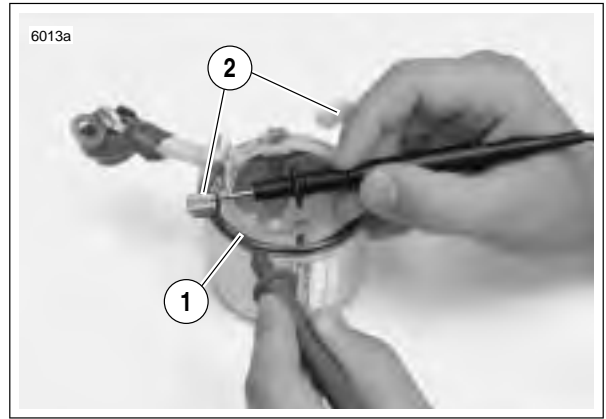
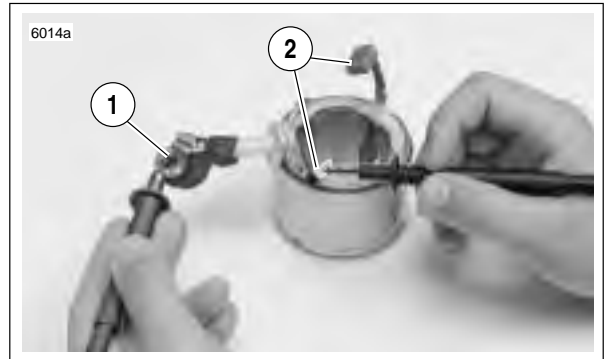

Figure 5-21. Grounded Field Test
Figure 5-22. Open Field Test
12. See Figure 5-21. Check for GROUNDED FIELD COIL with an ohmmeter or continuity tester.
- a. Touch one probe to the frame (1).
- b. Touch the other probe to each of the brushes (2) attached to the field coil.
13. See Figure 5-22. Check for OPEN FIELD COILS with an ohmmeter or continuity tester.
- a. Touch one probe to the field wire (1).
- b. Touch the other probe to each of the brushes attached to the field coil(s) (2).